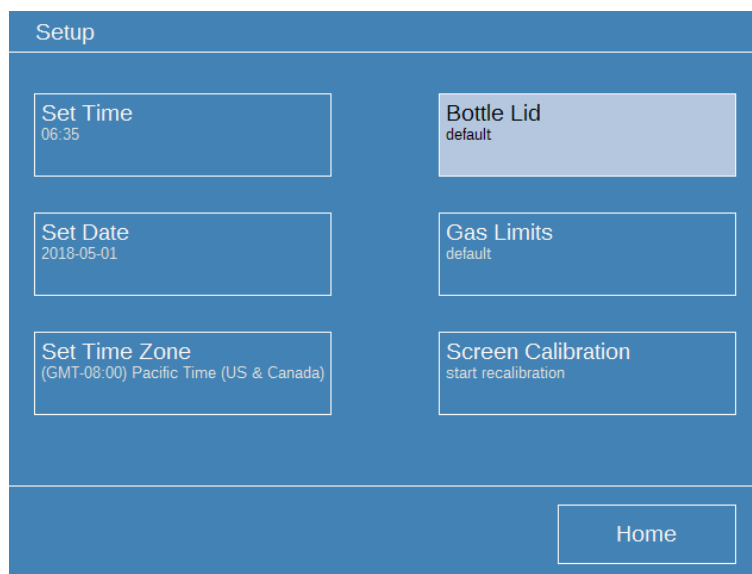

Figure 12-2: Setup > Bottle Lid
2. The Setup screen displays as shown in Figure 12-2. Press **Bottle Lid**.